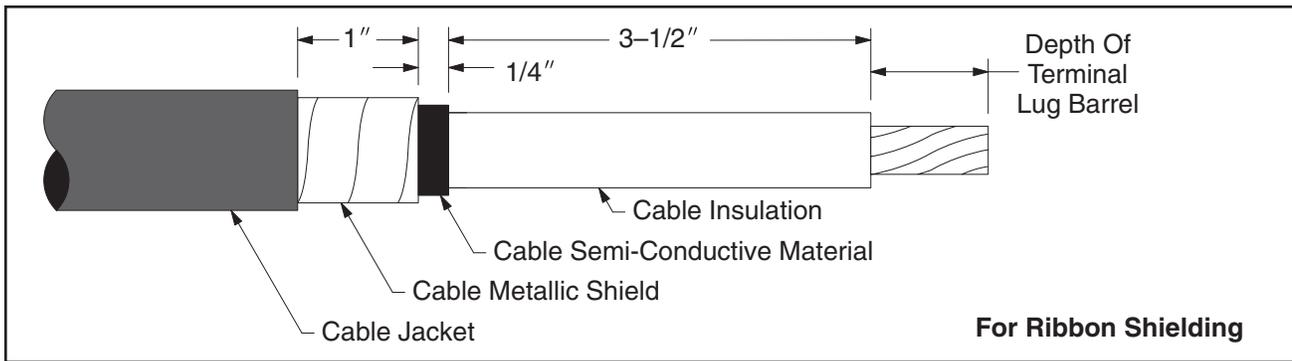

Figure 7a
For Ribbon Shielded Cable see *Figures 7a, 8a and 9a*.
5.5 Remove cable insulation for length recommended by terminal lug manufacturer; if no information is available, remove for depth of lug barrel. See *Figure 7a, 7b and 7c*, depending on type of cable shielding.